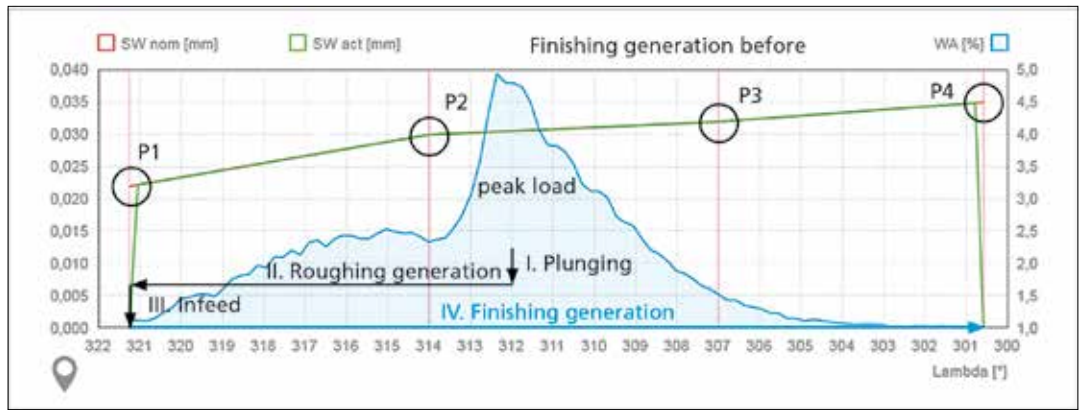

Figure 1: Tool utilization curve before optimization (blue), finishing-generation process.
Bevel gear teeth are typically manufactured in a multiple-step process. For most components, the tooth profile is generated by means of a rolling motion of the gear cutting machine. After the initial plunging process and subsequent roughing-generating, finishing-generating is the final step in the bevel gear tooth cutting process. Figure 1 shows the plotted utilization curve (in blue) of the tool spindle used in this type of finishing-generating process. Since the example deals with a gear set that obtains its final quality by means of lapping after heat treatment, the main focus during machining is on component accuracy. The process to be optimized (see Figure 1) starts with a plunging operation (I) at a lambda working position of approximately 312°. Once the tool has reached its working depth, it generates an initial area of the tooth flank (roughing-generating, II from lambda 312° to 321°). After a short infeed (III), the gear teeth are finish-generated at the tool utilization shown (WA [%]). The tool starts the finishing-generating (IV) at a lambda generating angle of 321° and stops at a lambda generating angle of approximately 301°. When doing so, it passes through the roughing-generated area. The load increase (or load surge) around the 312° generating angle is clearly visible. This is the result of the transition from the roughing-generated area to the non-generated area.